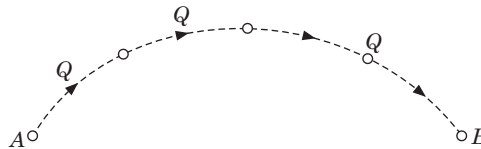

Fig. 1.2 Principle of heat convection.
2. Convection. Convection is the transfer of heat within a fluid by mixing of one portion of the fluid with another. In convection, there must be a flow of liquid or gas. Heat is carried away by the flow of the fluid as illustrated in Fig. 1.2.